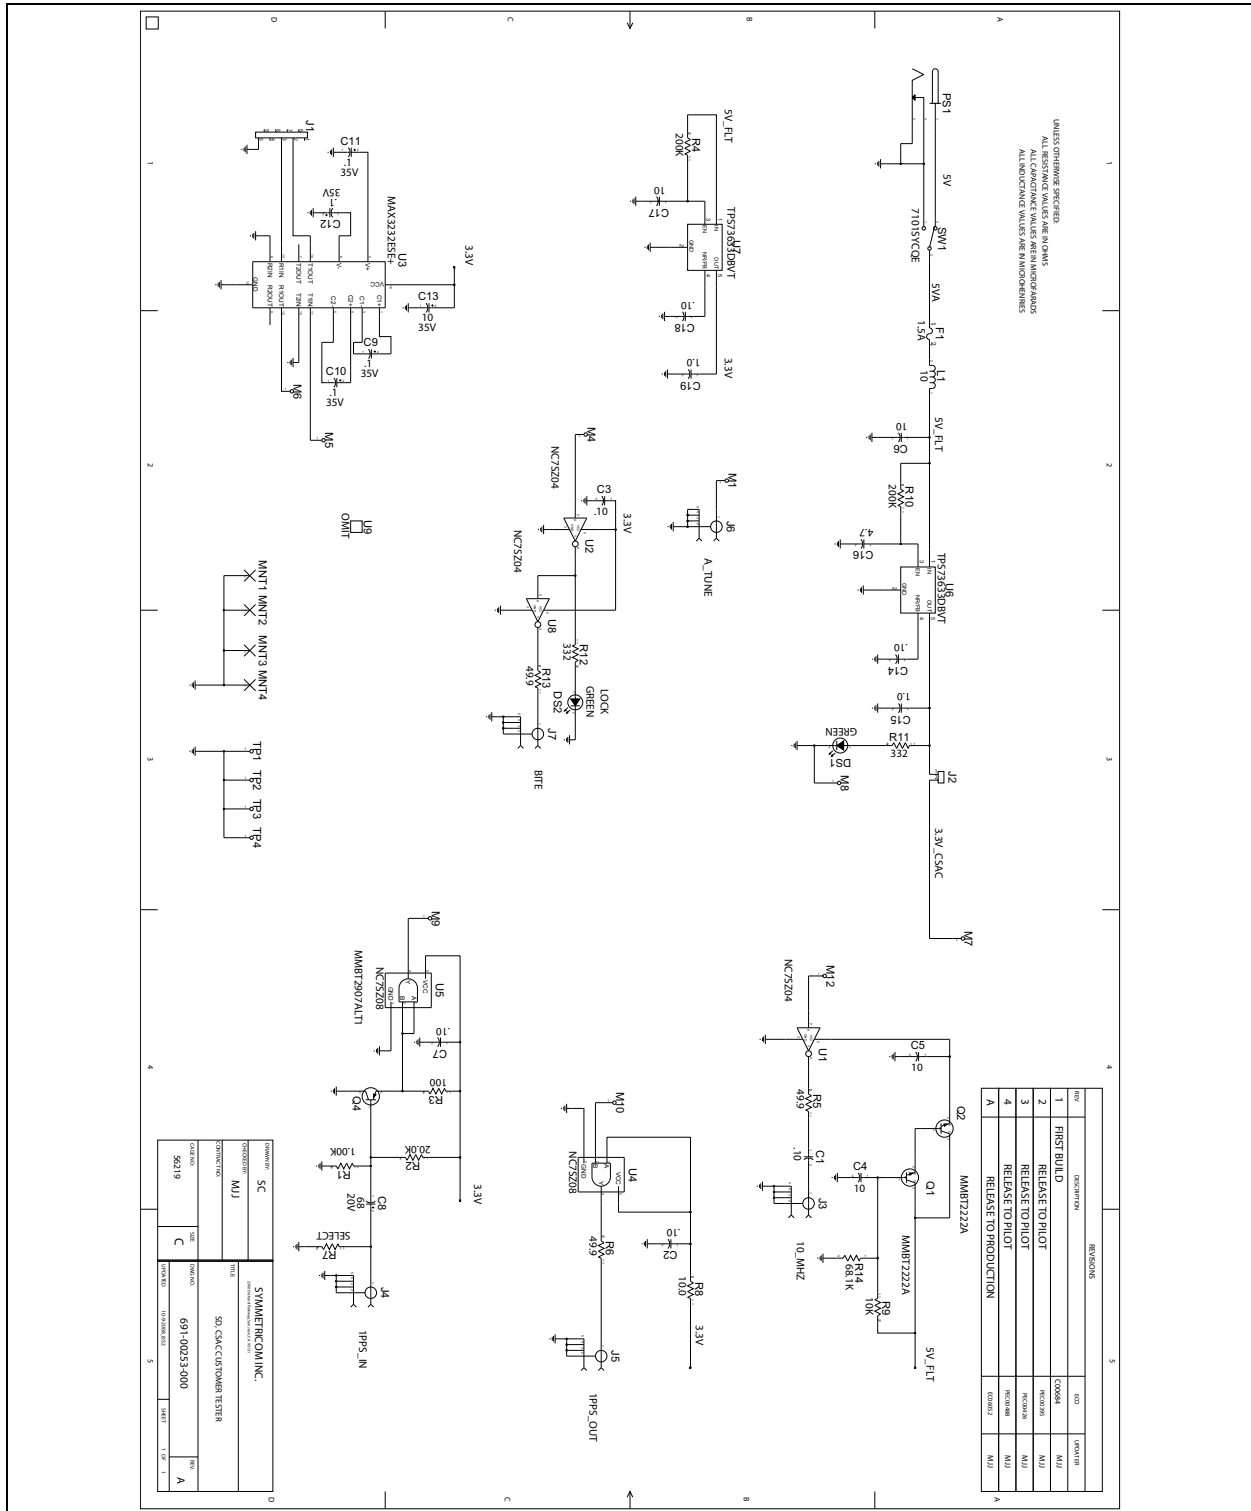

FIGURE 5-3: Reference Schematic for Evaluation Board.
- **1PPS Input (SMA):** The 1PPS input connection to the evaluation board accepts a 1PPS reference of arbitrary amplitude (logic high: $2V < V_{IN} < 20V$) and generates a 0V to 3.3V CMOS pulse to the CSAC. This input is capacitively coupled to the level-shifting circuit on the evaluation board (see Figure 5-3) and therefore the applied pulse width must be < 10 ms in duration.